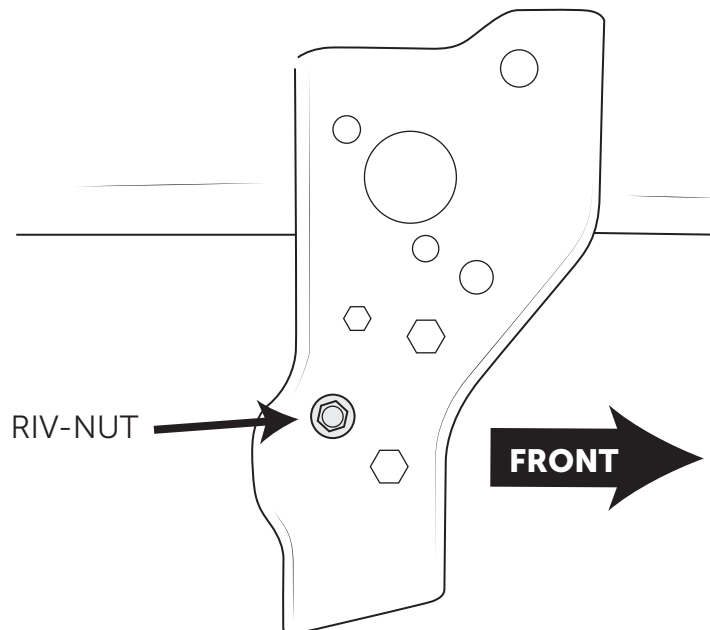

Figure 6
7. Install hex riv-nut using provided tool to hex shaped upper rear hole on outside surface of compatibility beam (fig. 6). To use riv-nut tool, run provided bolt through the washer and coupler, then thread on riv-nut until snug. Flanged end of riv-nut should sit against the coupler. Place riv-nut into desired hole, hold coupler stationary with a wrench, and tighten the bolt to 31 ft-lb. Remove the bolt and coupler to make sure the riv-nut has full compressed. **NOTE:** Depending on factory bumper configuration, some vehicles may already have riv-nuts in these locations.